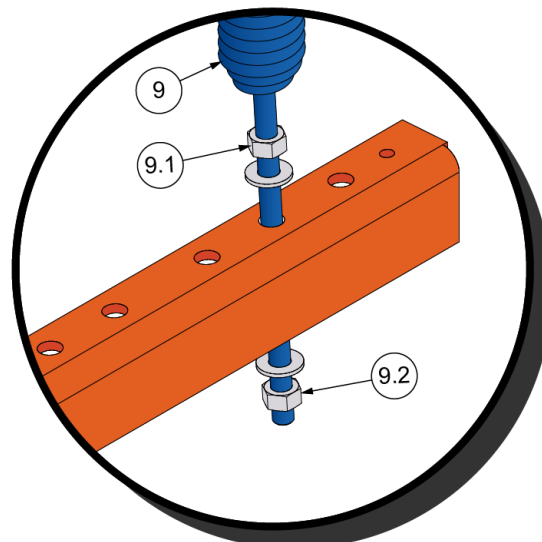

Fig. 2
- Loosen the locknut (9.1) and completely release the spring tension by loosening the nut (9.2) ⇒ Fig. 2.